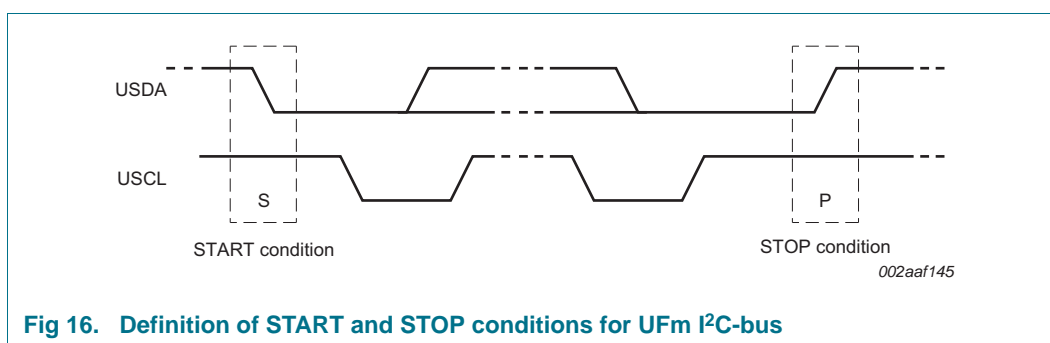

Fig 16. Definition of START and STOP conditions for U^{Fm} I²C-bus
Both data and clock lines remain HIGH when the bus is not busy. A HIGH-to-LOW transition of the data line while the clock is HIGH is defined as the START condition (S). A LOW-to-HIGH transition of the data line while the clock is HIGH is defined as the STOP condition (P) (see Figure 16).